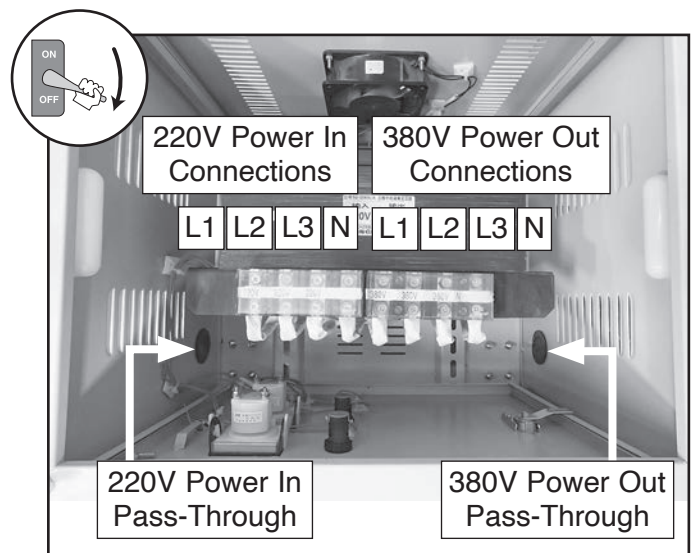

Figure 64. Example of transformer components.
2. Remove (4) acorn nuts securing transformer lid and open transformer.
3. Route incoming 220V power wires through enclosure pass-through and connect to 220V terminals on transformer (see **Figure 64**).
4. Connect outgoing 380V power wires to 380V terminals on transformer and route through enclosure pass-through (see **Figure 64**).